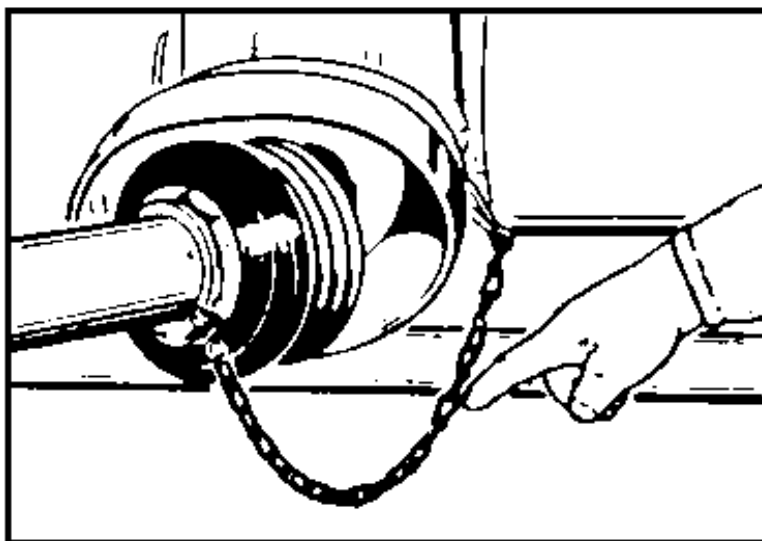

Fig. 21 Safety chain on the drive shaft
- 4.2.6 Hook the safety chain of the drive shaft to a fixed part (see Fig. 21).